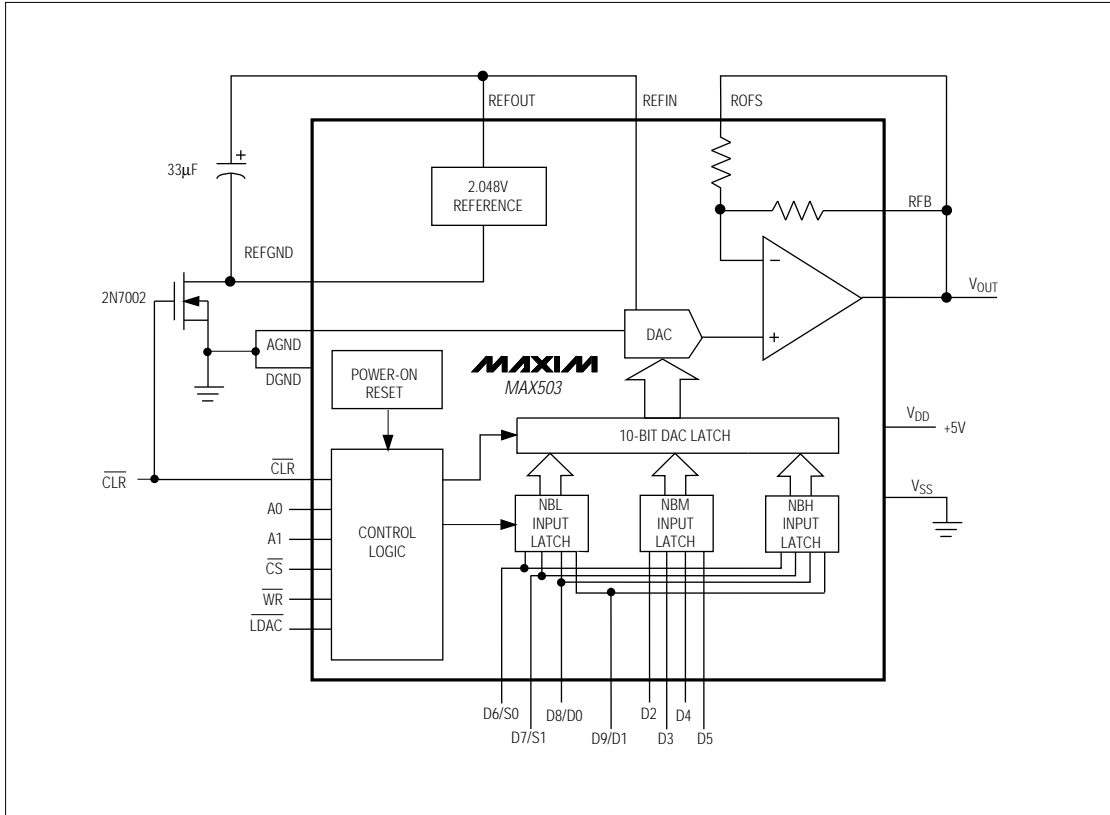

Figure 3. Low-Current Shutdown Mode
An additional 110µA of supply current can be saved when the internal reference is not used by connecting REFVDD to VDD. A low on-resistance N-channel FET, such as the 2N7002, can be used to turn off the internal reference to create a shutdown mode with minimum current drain (Figure 3). When CLR is high, the transistor pulls REFVDD to AGND and the reference and DAC operate normally. When CLR goes low, REFVDD is pulled up to VDD and the reference is shut down. At the same time, CLR resets the DAC register to all 0s, and the op-amp output goes to 0V for unity-gain and G = 2 modes. This reduces the total single-supply operating current from 250µA (400µA max) to typically 40µA in shutdown mode.
In order to provide hardware and software compatibility with the 12-bit MAX530, the MAX503 employs a 12-bit digital interface. As shown in Figure 3, there is actually a 12-bit input latch, and therefore 12 bits of data should be written. The two least significant bits (S1 and S0) are sub-LSB, and must always be 0s. Designed to interface with 4-bit, 8-bit, and 16-bit microprocessors (μPs), the MAX503 uses 8 data pins and double-buffered logic inputs to load data as $4 + 4 + 4$ or $8 + 4$. The 12-bit DAC latch is updated simultaneously through the control signal LDAC. Signals A0, A1, WR, and CS select which input latches to update. The 12-bit data is broken down into nibbles (NB): NBL is the enable signal for the lowest 4 bits (S0, S1, D0, D1), NBM is the enable for the middle 4 bits, and NBH is the enable for the highest and most significant 4 bits. Table 2 lists the address decoding scheme.